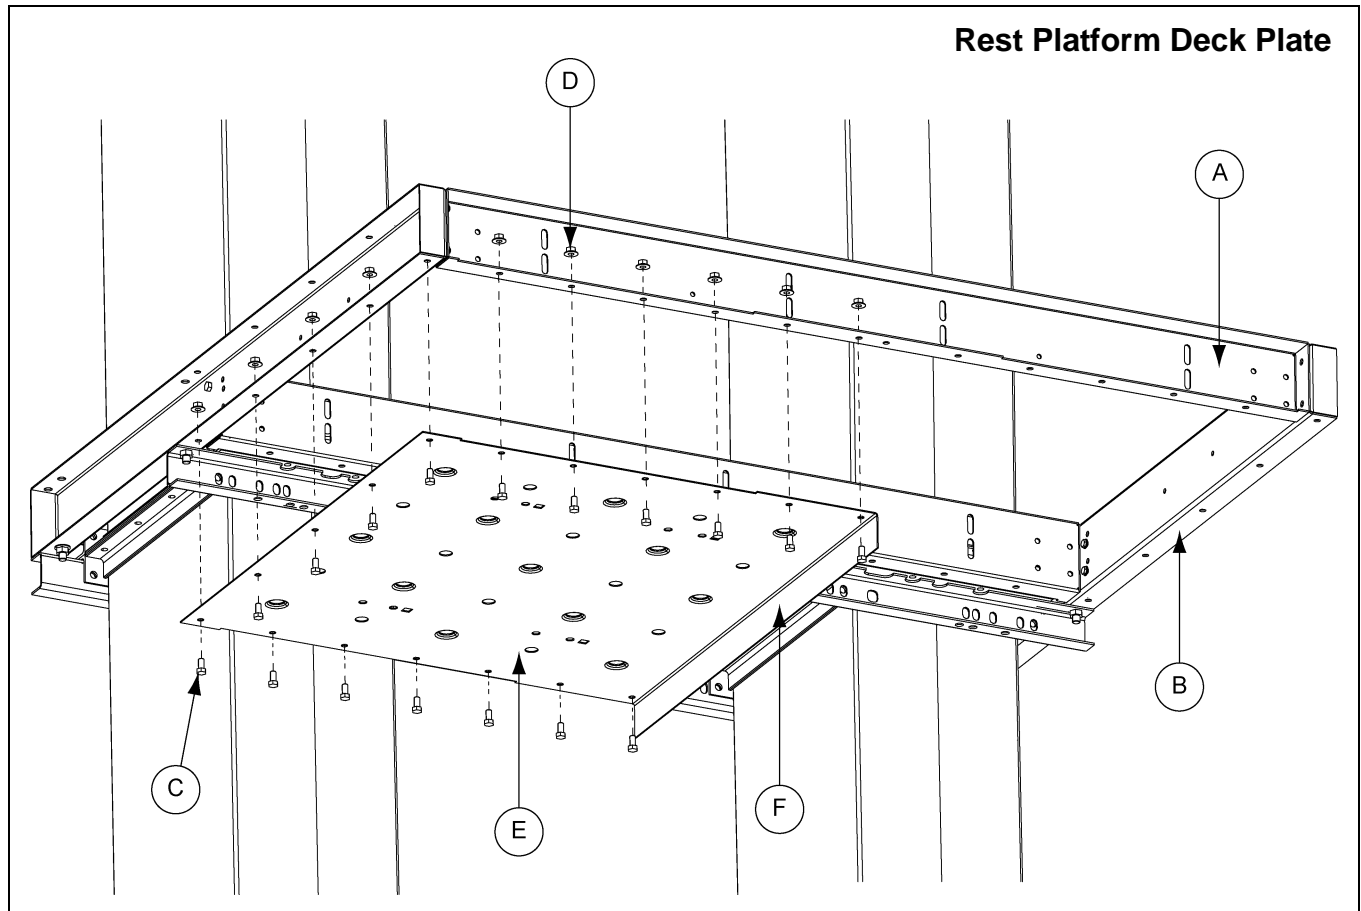

Figure 7G Deck Plate
2. Attach rest platform deck to the bottom of the rest platform mounting channels (RP1636MCX) (B) and rest platform cross channels (RP1636CCX) (A), using 3/8" x 3/4" hex bolts (S-7105) (C). Bolt heads should be installed against the deck plate. (See Figure 7G.) **NOTE:** The deck plate can be mounted on either the right or left side, but the flange must be mounted towards the opening.